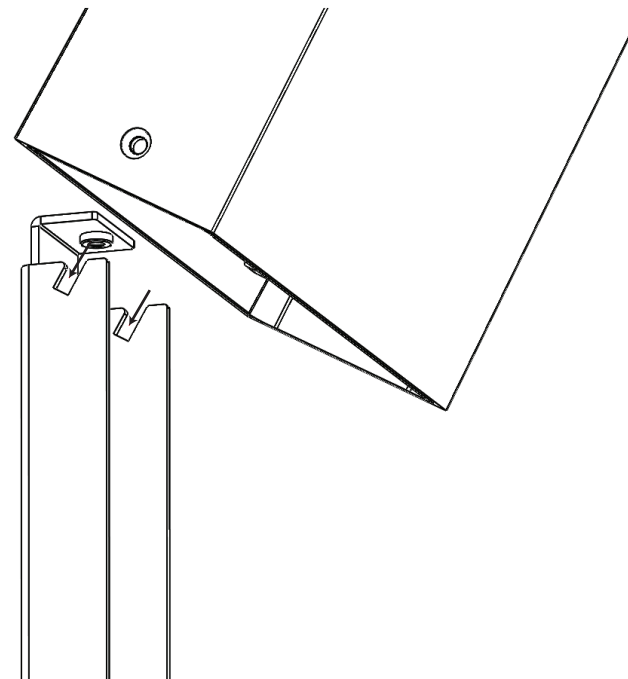
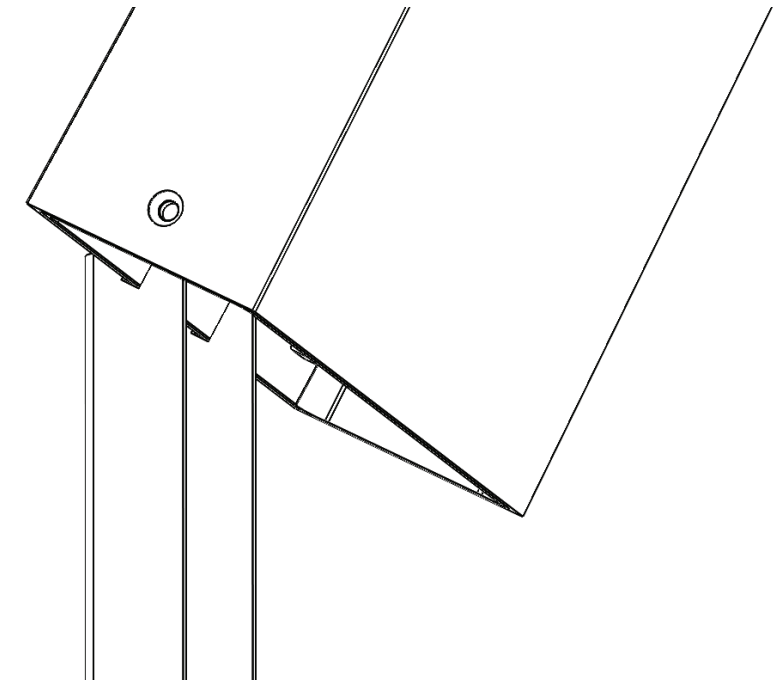

Fig. 2
Fig. 3
2. Hang fixture on the mounting bracket - see Fig. 2 and Fig. 3.